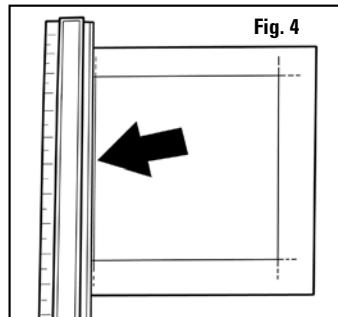

Fig. 4
2. Place the mat face down on the Slip Sheet. Place the Straight Edge EXACTLY on the left hand border so that the outside edge of the channel is lined up along the pencil line. **Fig. 4**